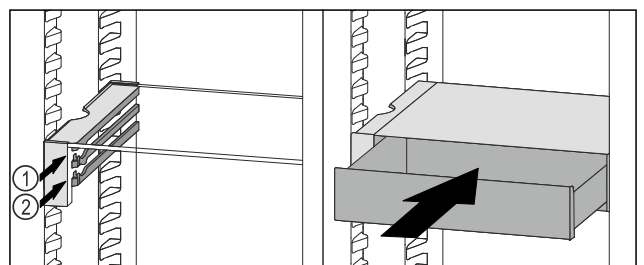

Fig. 109
- Place the VarioSafe drawer behind the stoppers on desired rib Fig. 109 (1) or Fig. 109 (2).